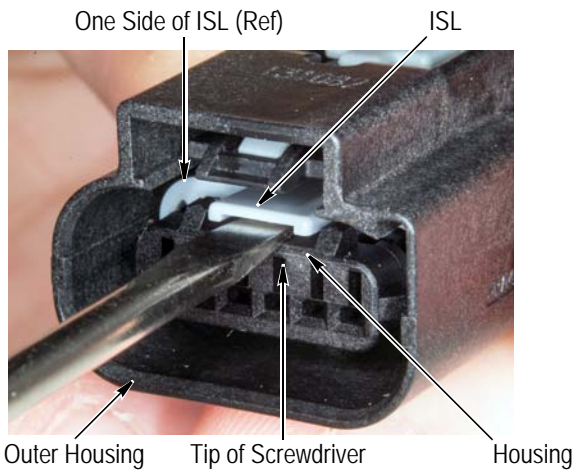

Figure 8
- a. Insert the tip of a 3- or 4-mm flat blade screwdriver between the housing and ISL. Refer to Figure 8. One side of the ISL will typically unlatch due to the insertion of the screwdriver.
- b. Rotate the screwdriver to unlatch the other side of the ISL. The ISL is now in the open position and will unlock the contacts from the plug assembly. See Figure 8.